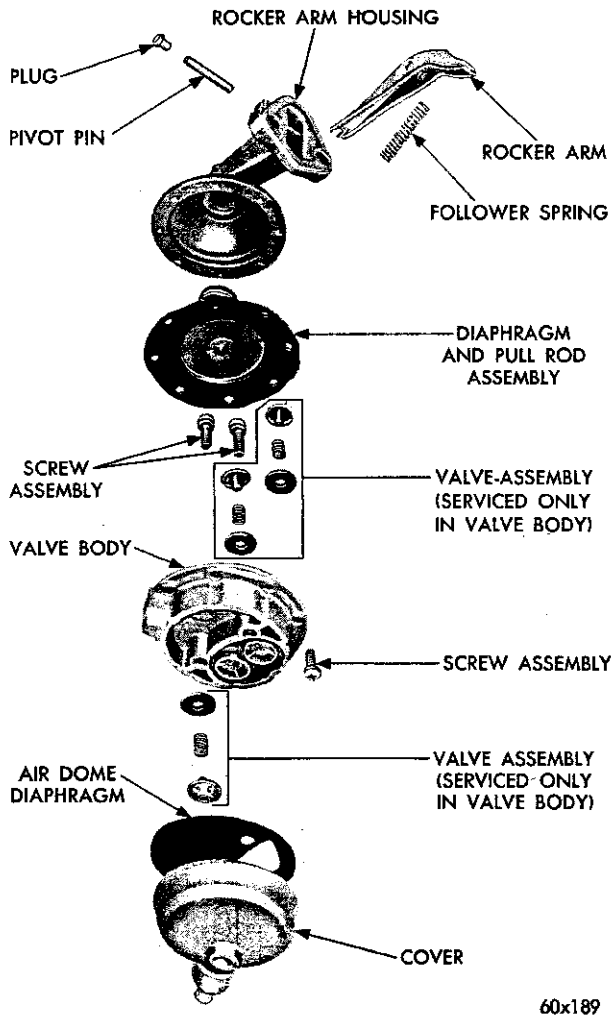

Fig. 79—Fuel Pump M-2769S (Disassembled View)
The fuel pump (Fig. 79) is driven by an eccentric
31. DISASSEMBLING THE FUEL PUMP (Fig. 79)
Assembly (Fig. 79)